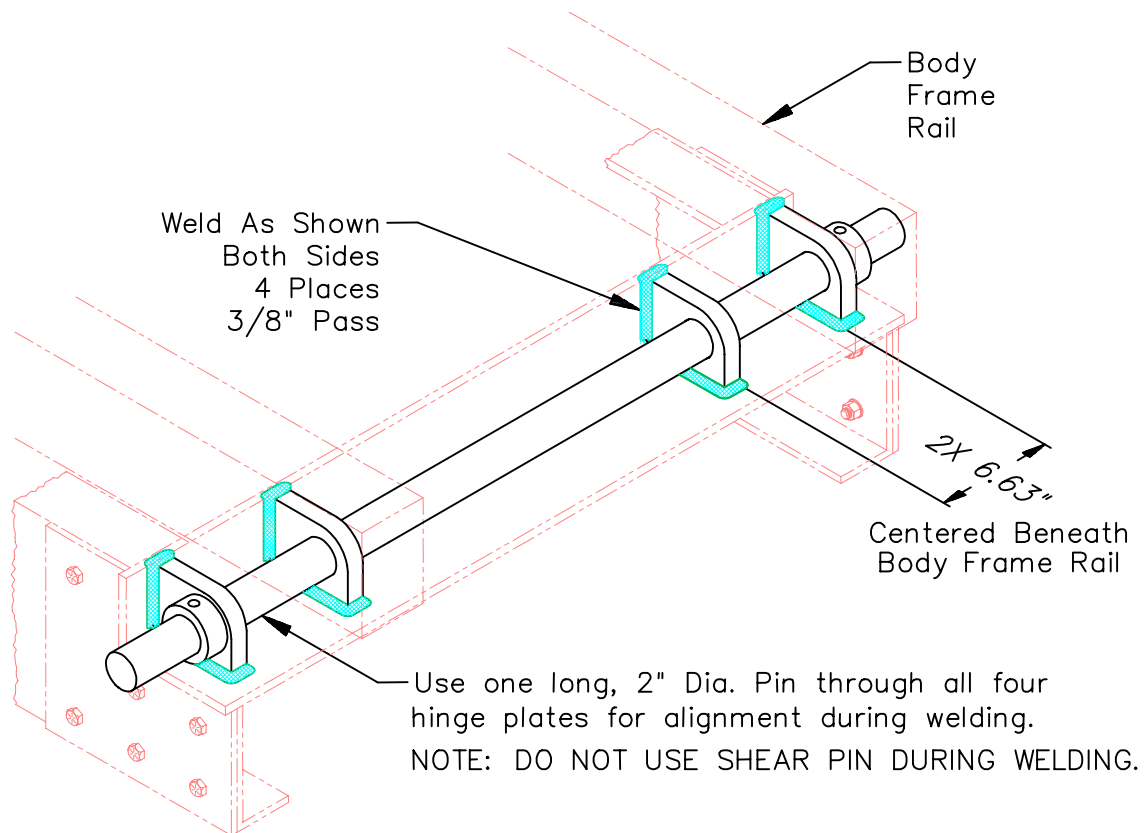

Figure 142-E, Welding Rear Hinge Kit
4. Position the VULCAN rear hinge plates and bed brackets in the approximate location of the original rear hinge components. **Note:** The width between the inner and outer support plates may be narrower or wider depending on the configuration of the factory mounts. Be sure to check the dimension from the bottom of the body frame rail to the bottom of the rear hinge assembly. This dimension is important in that the body must not be lifted off of the truck chassis. Slide a 2' long steel, cold roll pin, 2" diameter, through the 2" holes in both the inboard and outboard rear hinge support plates, the bed bracket, and the steel washers. See Figure 142-D for assembling components.